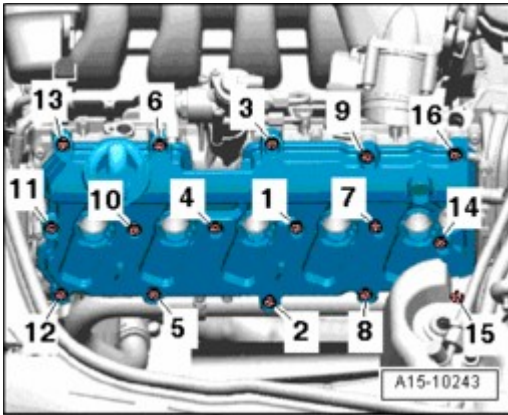

Fig. 302: Identifying Bolts Removal Sequence
- Note tightening sequence --> **Fig. 302**